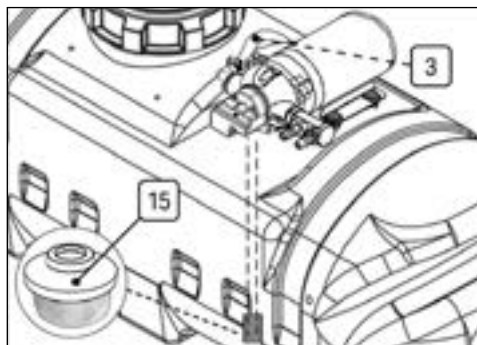

Fig. 15
7.5 Inspection and Tests to carry out before each Use (Fig.15)